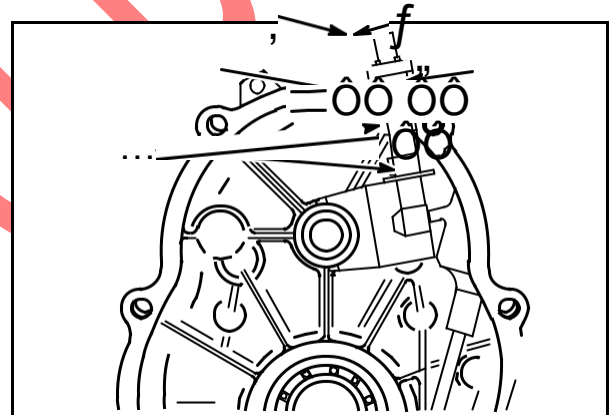

Fig. 8
Remove cotter pin (3) and collar (2). Discard cotter pin, **Fig. 8**.